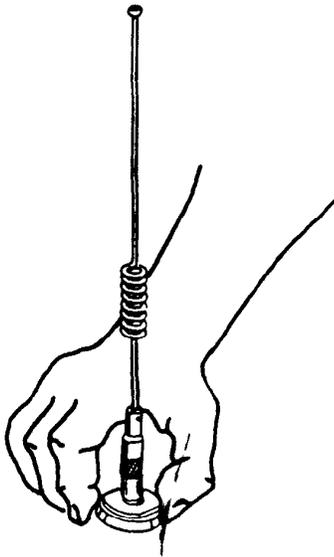

Figure 9.
Step 10. See Figure 9. Slide the metal cap (coupling nut) over the antenna rod assembly until it is in place over the plastic insulator of the whip assembly. Put the whip assembly in place over the locking nut and secure the metal cap to the external threads of the locking nut. With the antenna rod in a perfectly vertical position, tighten the metal cap *by hand* as tight as possible. Then, with 10" adjustable wrench or a 1" open end wrench, tighten an additional 1/2 turn.